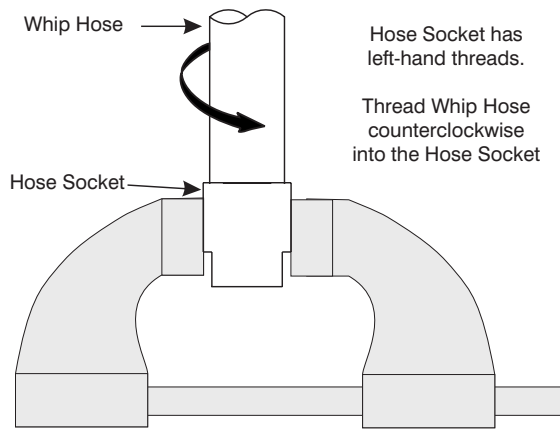

Figure 11-16. Hose Socket and Hose in Vise.
1. With its larger internal bore (hose end) facing up, clamp the Hose Socket (15) in a vise, as shown in Figure 11-16.